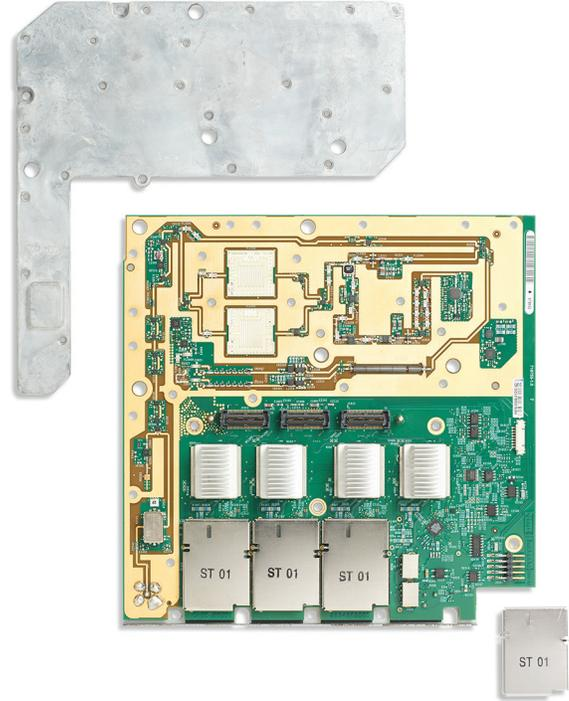

Figure 10. MDO4000C analog board with shields removed clearly shows the RF signal path.
- Significantly improved shielding is provided, as shown in Figure 10.